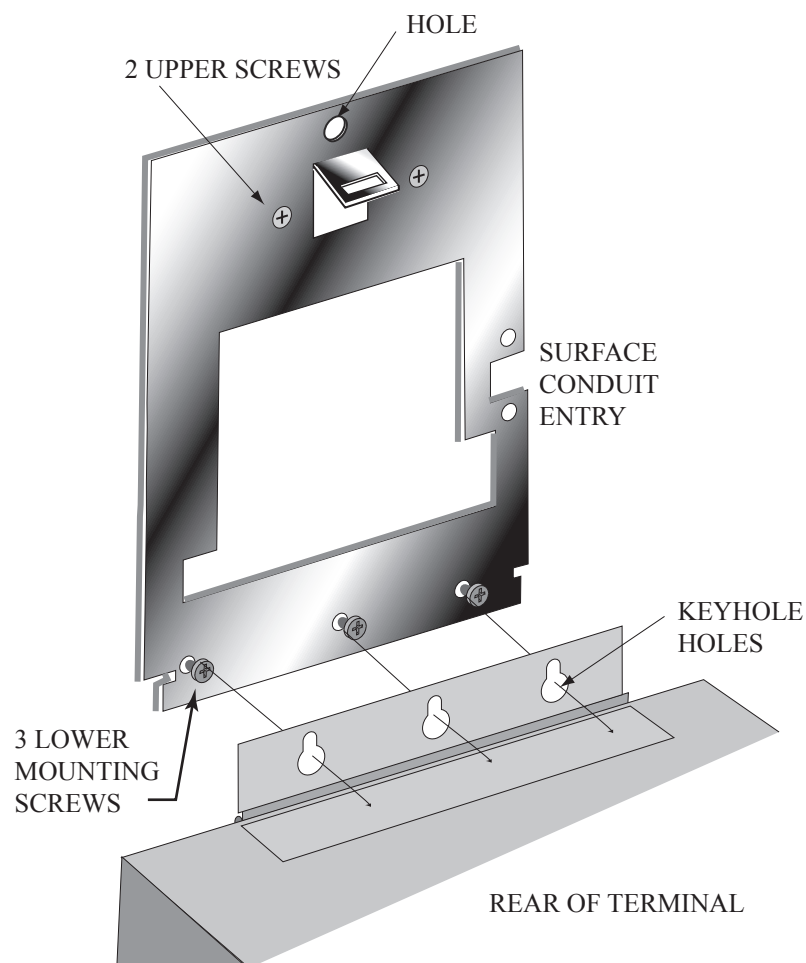

Figure 17-1: Attaching the Hand Reader to the Wall Plate
3. At the base of the HandReader is a piano hinge with three keyhole shaped slots that correspond with the three lower mounting screws. Align and hang the HandReader from the three lower mounting screws (see Figure 17-1).